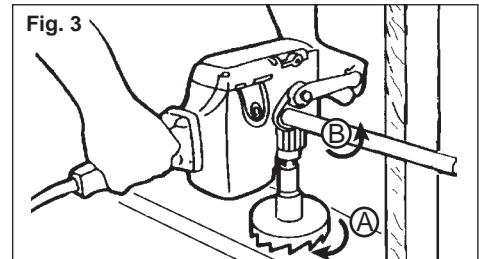

Fig. 3
If the bit binds, the drill will suddenly react in the opposite direction of the rotation of the bit. Figure 3 shows the path of reaction (B) if the drill bit binds while being driven in forward (A). The operator should reduce the chances of a sudden reaction by following the instructions listed below.